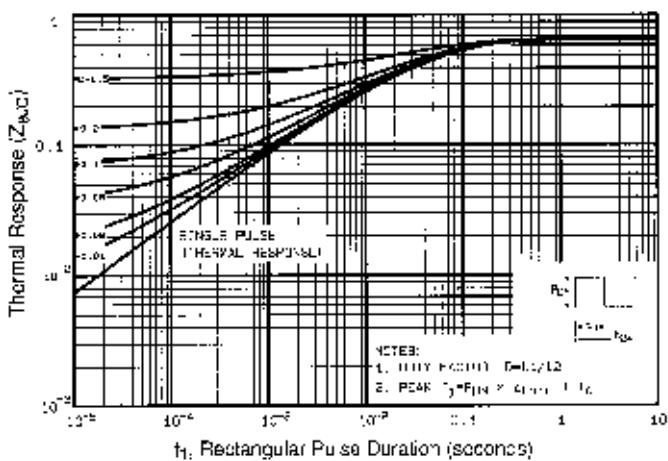

Fig 11. Maximum Effective Transient Thermal Impedance, Junction-to-Case
① Repetitive rating; pulse width limited by max. junction temperature (See Figure 11)
② $I_{SD}<16\text{A}$, $dI/dt<200\text{A}/\mu\text{s}$, $V_{GS}<V_{GS(th)}$, $T_J<150^\circ\text{C}$
③ $V_{DS}=50\text{V}$, starting $T_J=25^\circ\text{C}$, $L=2.7\text{mH}$